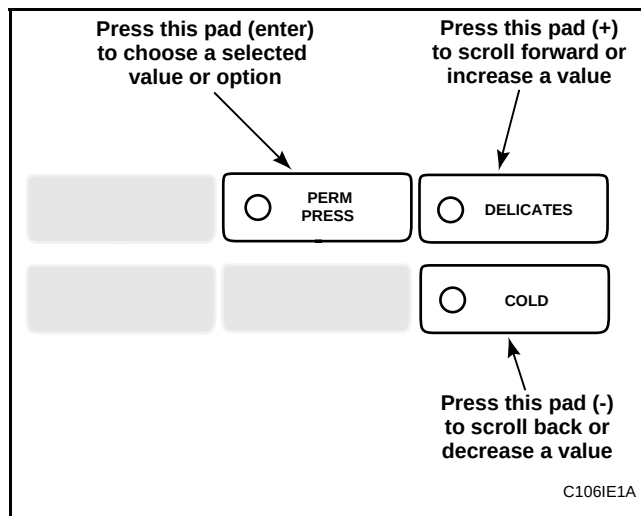

Figure 18
6. Press the DELICATES (+) or the COLD (-) keypad to increase or decrease the current three digit number until correct. See **Figure 18**.